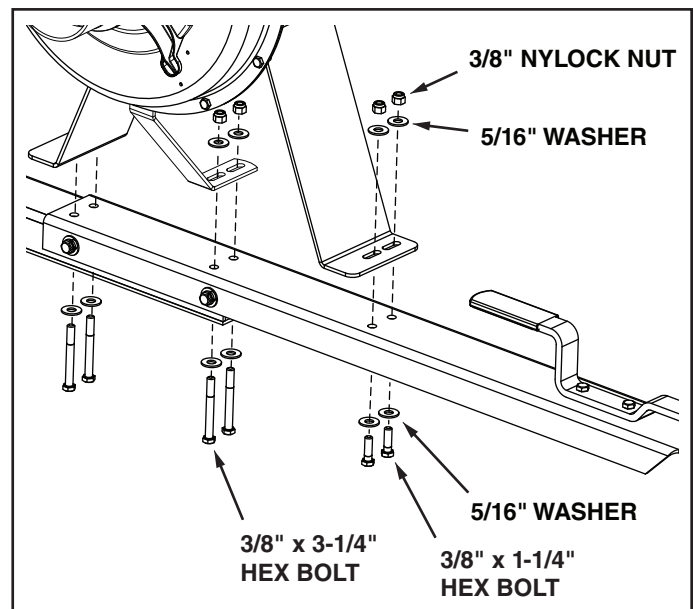

FIGURE 7
- Attach the engine base assembly to the tongue using four 3/8" x 3-1/4" hex bolts, two 3/8" x 1-1/4" hex bolts, twelve 5/16" flat washers and six 3/8" nylock nuts. **Tighten.** See figure 7.